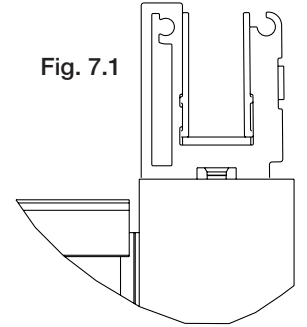
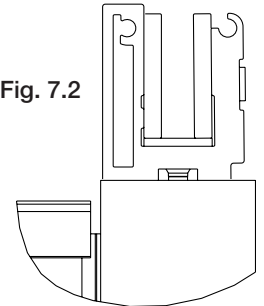

Fig. 7.1
Fig. 7.2
7. If the Glass Add up substrate is thinner than 1/2" then install the glass filler strips as shown in **Fig. 7.1** (3/8" glass-pay attention to the orientation of this filler strip), if the glass is 1/4" thick see **Fig. 7.2**. Center the strips end to end.